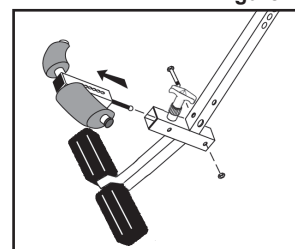

Figure 2
- Remove the bolt that holds the retainer spring attached to the front ankle clamp (Figure 2).